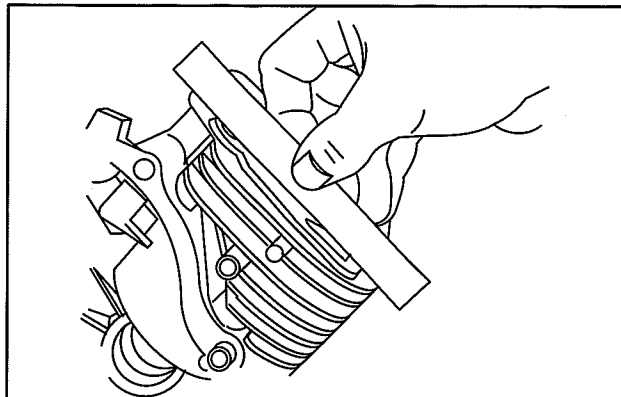

Fig. 1 – Check Cylinder
1. Check cylinder head mounting surface for distortion with a straight edge, Fig. 1.